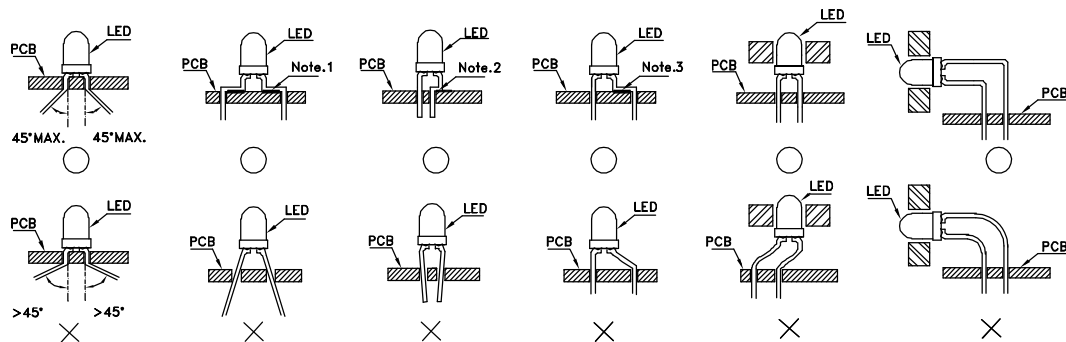

Fig.1
- ### 2. The lead pitch of the LED must match the pitch of the mounting holes on the PCB during component placement. Lead-forming may be required to insure the lead pitch matches the hole pitch. Refer to the figure below for proper lead forming procedures. (Fig. 1)